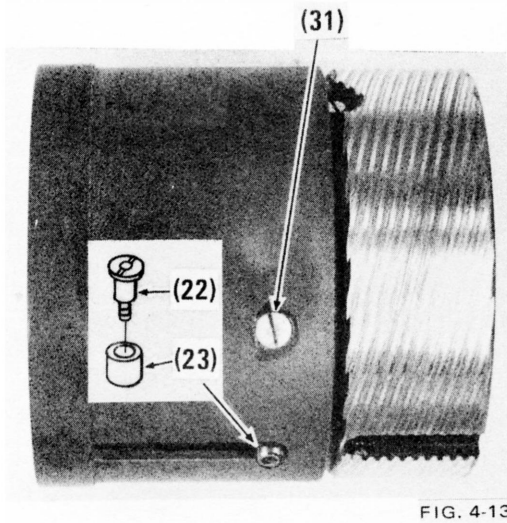

FIG. 4-13
a) Remove 1st lens group slide screw (31) two places. Use tool No. 3650533 to remove 2nd lens group slide shaft (39) and roller (38) (two places). Fig. 4-13.
- g) Install 1st lens slide screw (31) in its mounting hole, through first lens cam slot in inner helicoid and into long slot in 2nd lens slide housing. Repeat for other side of lens. Fig. 4-13.
h) Adjust the depth of slide screw (31) in the assembly as follows: